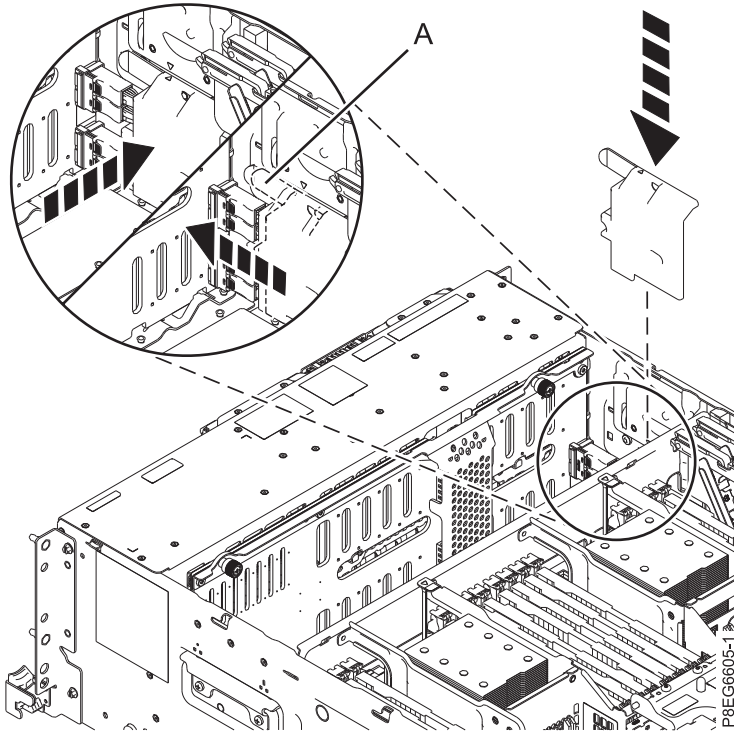

Figure 11. Replacing the SAS cable cover
10. Replace the SAS cable cover. Place the cover slots onto the pins on the side of the chassis. Push the cover forward toward the front of the system until the handle (A) latches in place. When the cover is installed, the triangle symbol on the SAS cable cover lines up with the triangle symbol on the side of the chassis. See Figure 11 on page 12.